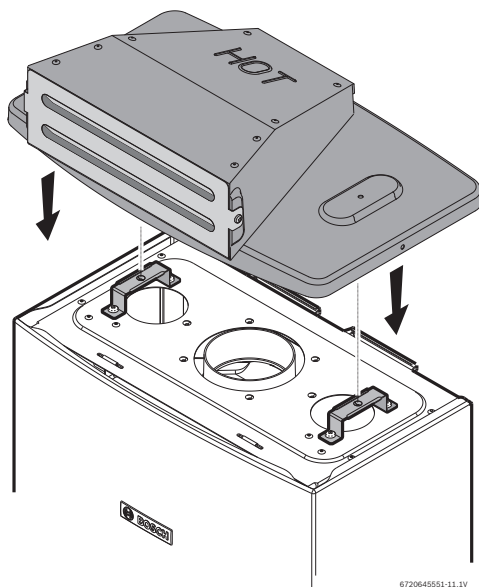

Fig. 7
- ▶ Position the outdoor vent cap on the top of the appliance, as shown in Fig. 7.